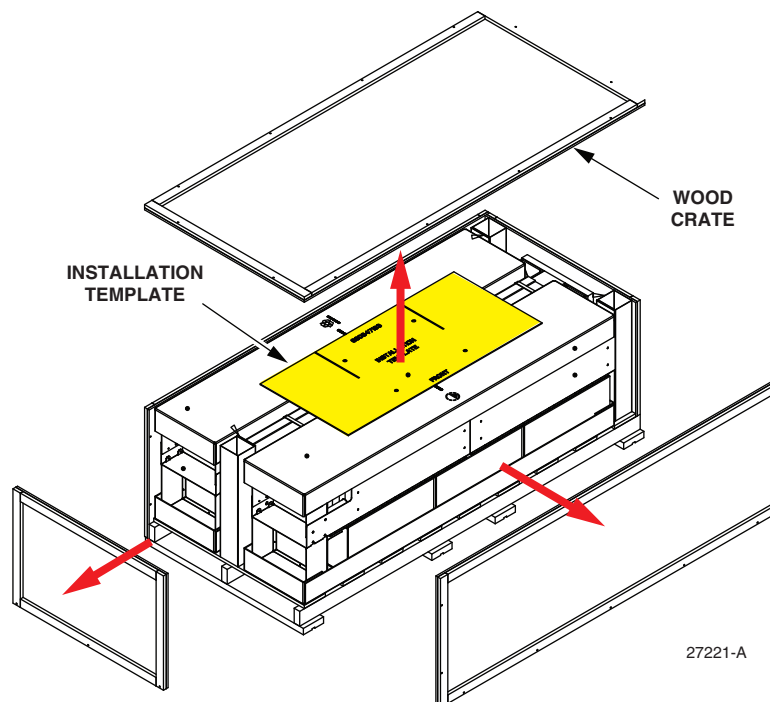

Figure 4. Flex Frame in Wood Crate
3. The crate is held together with 36 TORX size T7 wood screws. Remove the 36 screws to disassemble the wood crate, as shown in Figure 4.